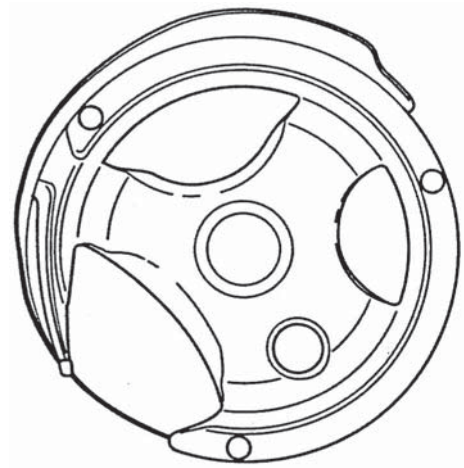

Fig. 26c
- Turn the handwheel until the opening of the sewing hook faces to the left (fig. 26c).